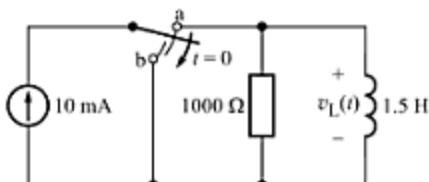

Fig. E-17
- E-22.** Assuming that the switch in the circuit shown in Fig. E-17 has been in position *a* for a long time before it is switched to position *b* at  $t = 0$ , find  $v_L(t)$ , the voltage across the inductor with the polarity shown.